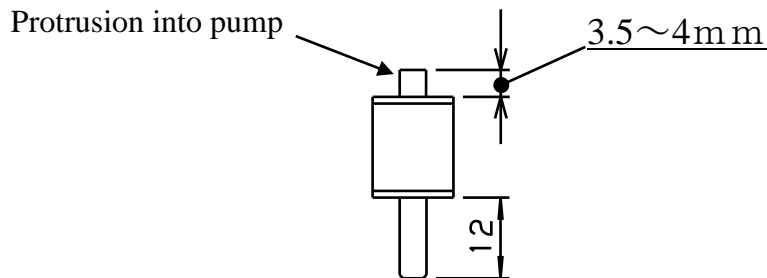

Fig.4 Screws for Anti-vibration Rubbers
- 5) When evacuating a vessel, ensure that a shut-off valve is placed between the pump inlet pipe and the vessel (see Fig.4).